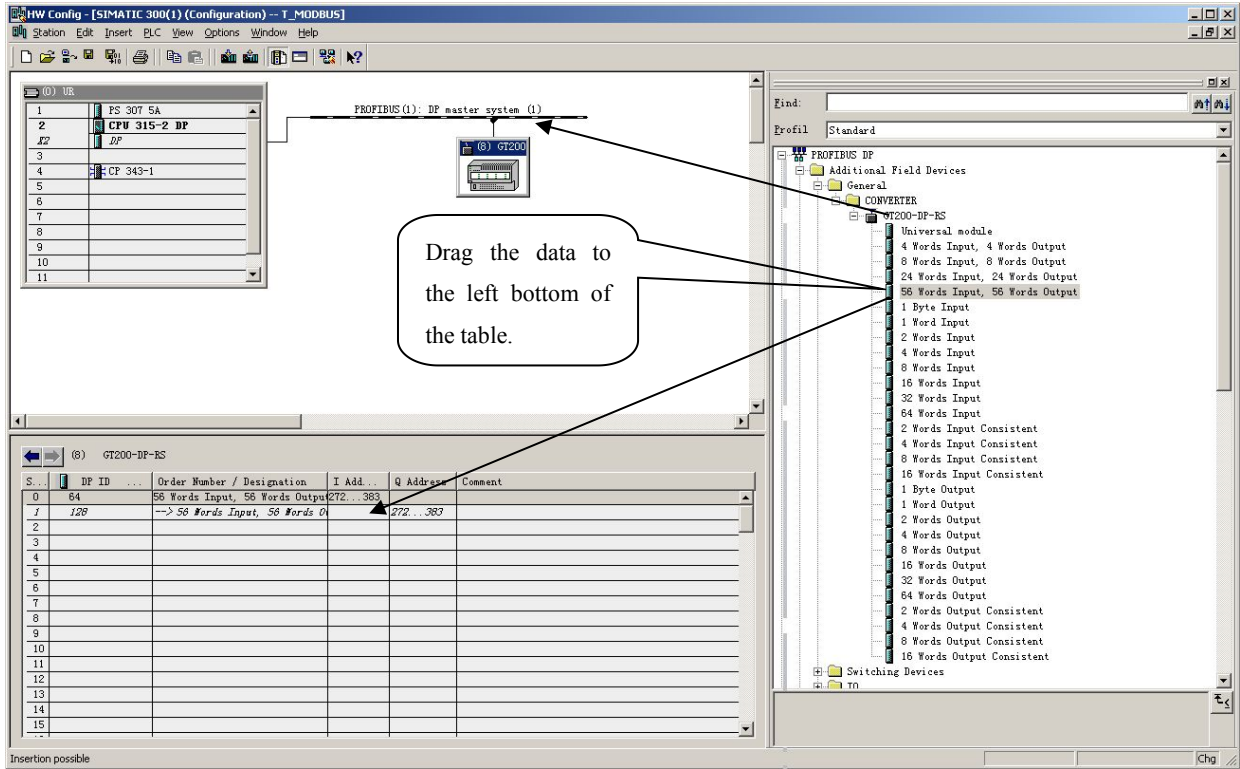

Figure 10
- Put configuration into PROFIBUS DP network, and map the input and output data block into other controller's memory; Figure 10: